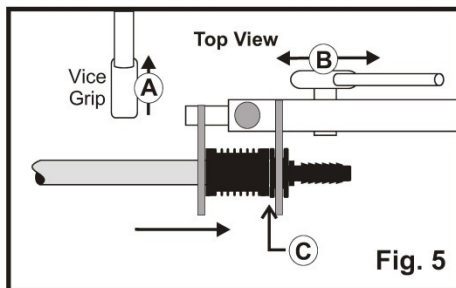

Fig. 5
C) Reverse ratchet direction and advance the completion sleeve over the pipe and spigot by operating the ratchet. Stop sleeve advancement when the sleeve is fully inserted over the spigot (See "C" in Fig. 5)
C) Stop sleeve advancement when the sleeve is fully inserted over the spigot (See "C" in Fig. 5)